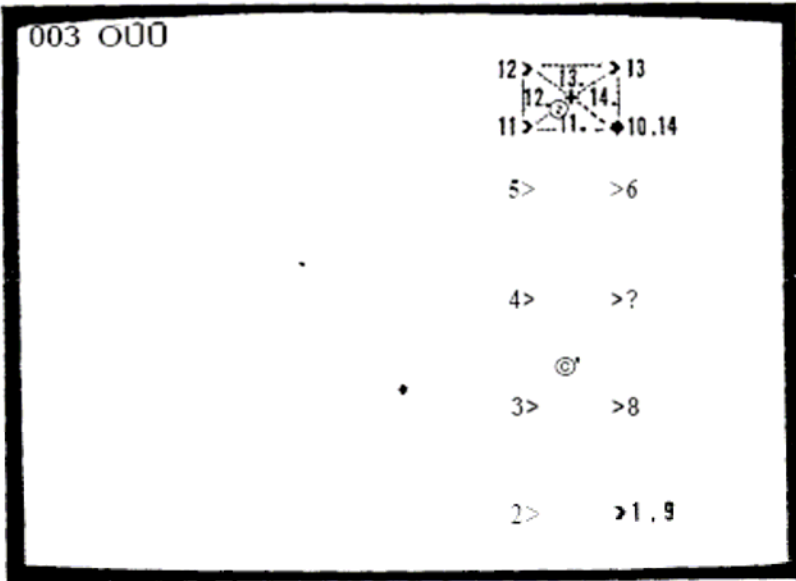

fig. 35 (HIGH LINE GRAPH)
1. Use the "X" (X OF CURSOR) key to move the cursor successively to the four points listed below. Type the "." (Plot) key after each move to construct the four triangles of the dot under-surface (see fig. 35):